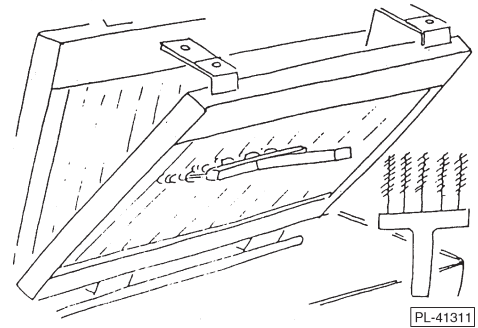

Fig. 16
11. Clean and sanitize the Front Blades using the cleaning brush and sanitizer (Fig. 16). Place a towel under the blades to catch drips.